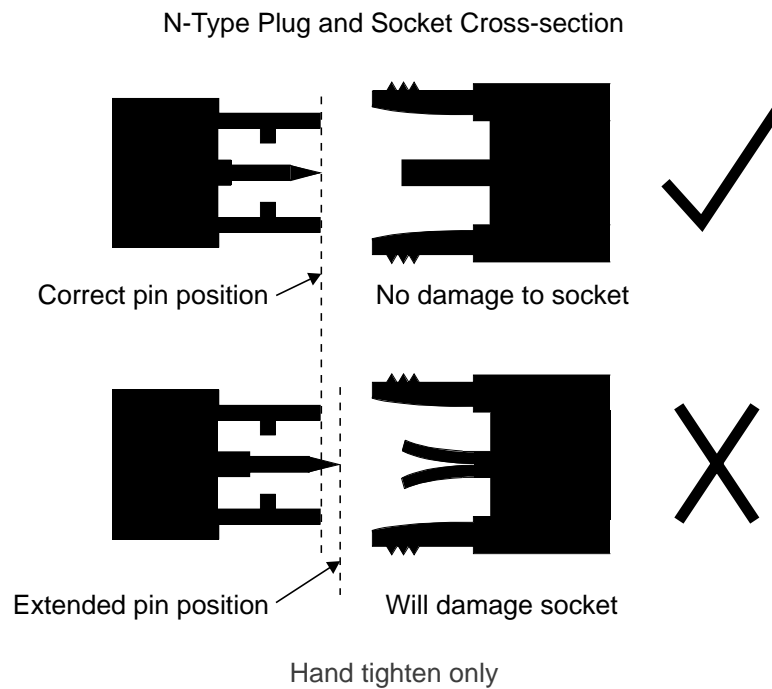

Figure 4.1 N-Type Plug Assembly Details
- if the pin protrudes too far (as shown in Figure 4.1), or is not straight, it may damage the socket when the plug is screwed in.